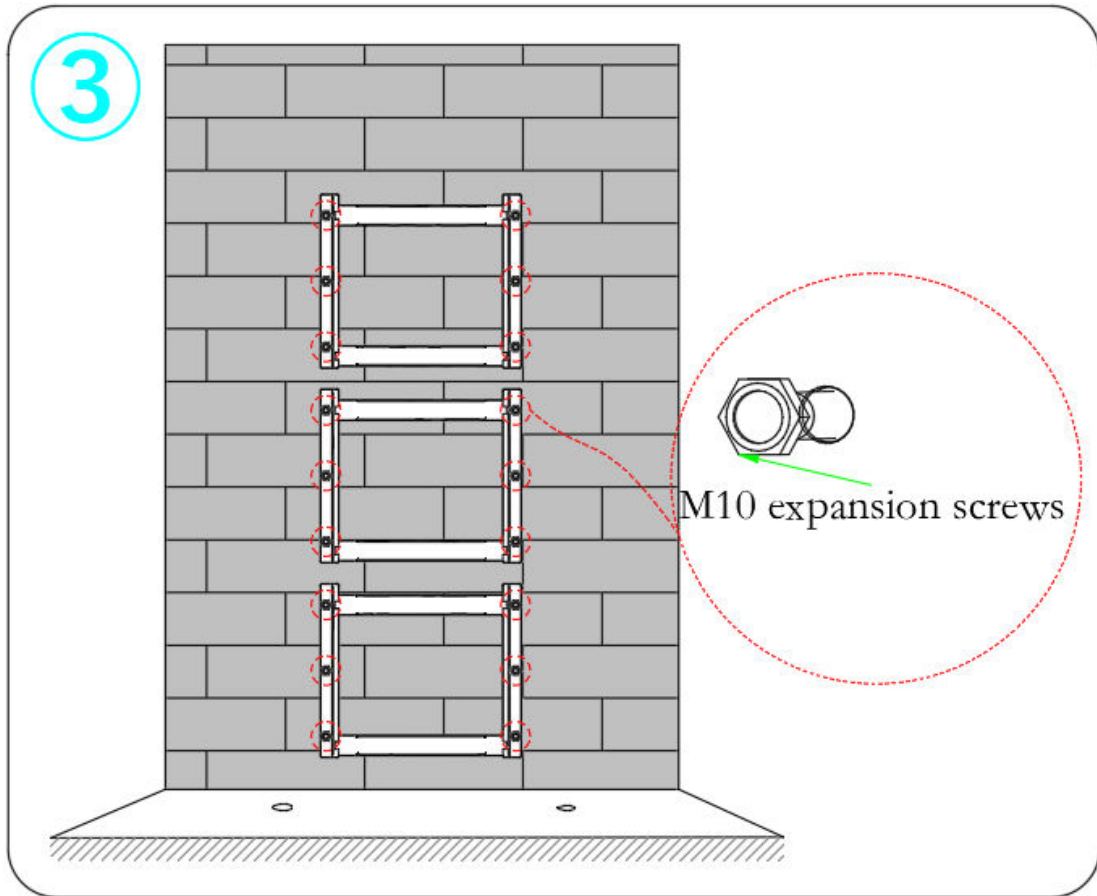

FIGURE 3.4: STEP3
- Step 3: Fix the wall mount on the wall with M10 expansion screws, and the torque is 10N·m, as shown in Figure 3.4.